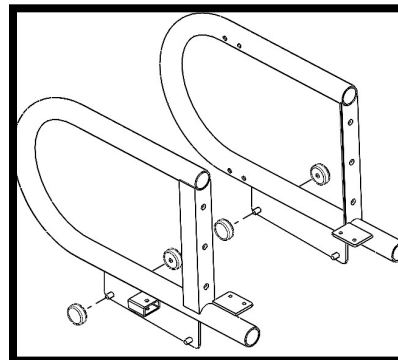

Figure 1
2. Attach Rollers (2) to Upper Roller Pins on Dock Mount Arm (R). See Figure 1.
1. Attach Rollers (2) to Upper Roller Pins on Dock Mount Arm (L). See Figure 1.